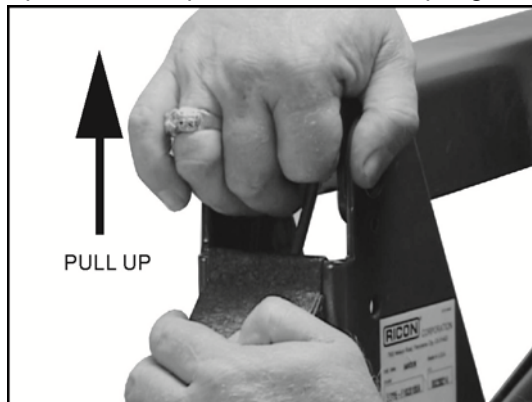

FIGURE 3-15: PIN WITH PIN ALIGNMENT TOOL
- d. Refer to **Figure 3-15**. Carefully remove tool holding parallel arm and rear spring in place. Hold rear spring and parallel arm, then pull parallel arm up and remove rear spring.